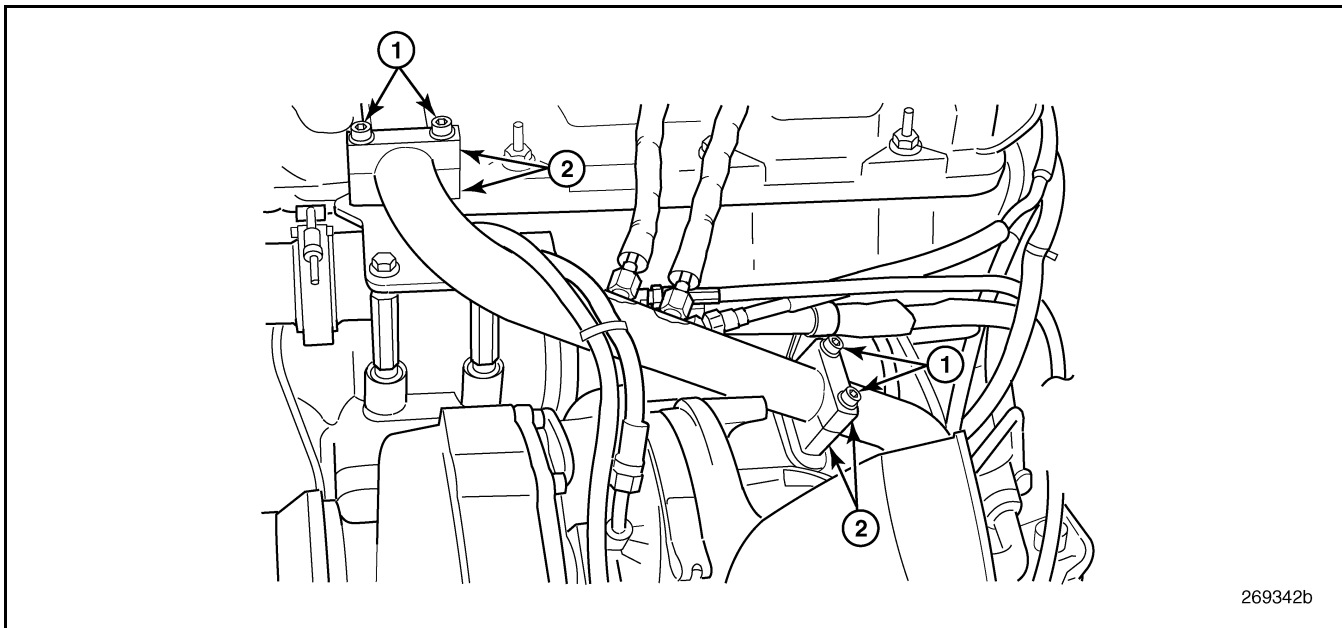

Figure 135 — Cool Tube Clamps
- Loosen and remove the clamps securing the cool tube to the brackets at the EGR valve and the front section of the exhaust manifold (Figure 135).